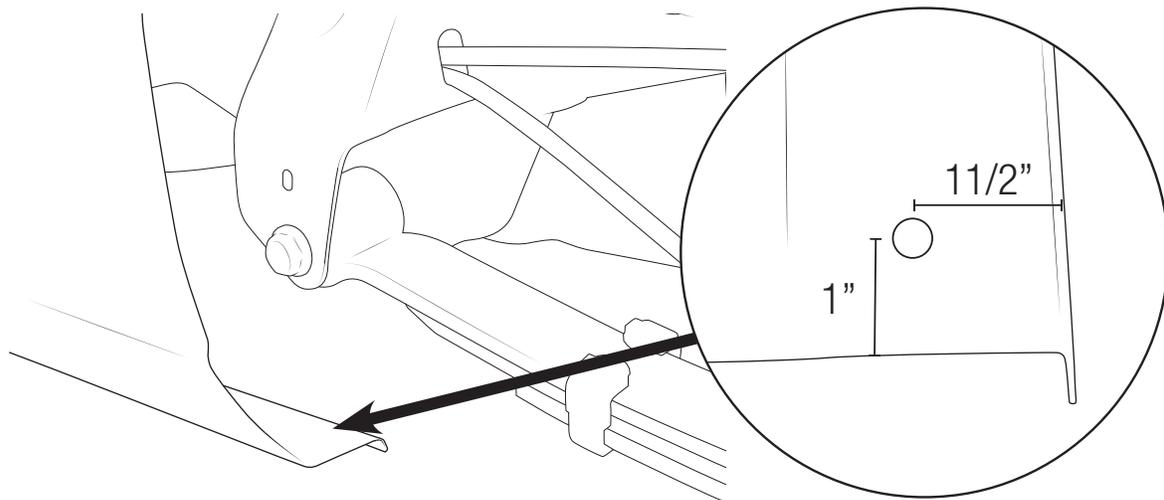

Figure 9: Driver's Side Shown
- D. Drill another 7/16" hole in the bottom lip of the bedside. This hole should be 1" forward of your cut and 1 1/2" from the inboard edge out (fig. 9).